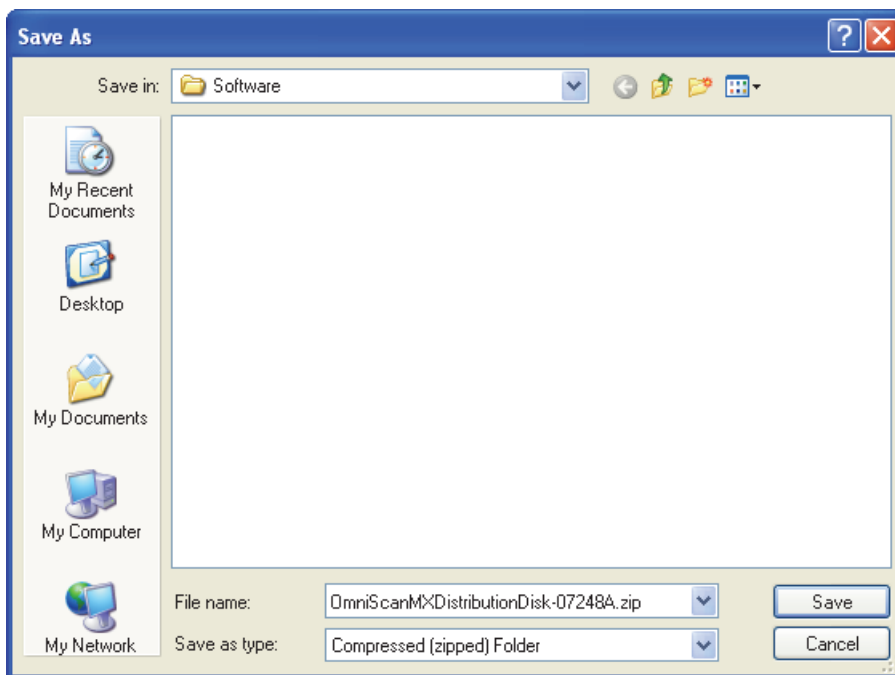

Figure 4-4 The Save As dialog box for the file download
6. In the **Save As** dialog box, in the **Save in** drop-down list box, select the folder where you want to save the ZIP file, and then click **Save** (see Figure 4-4 on page 67).